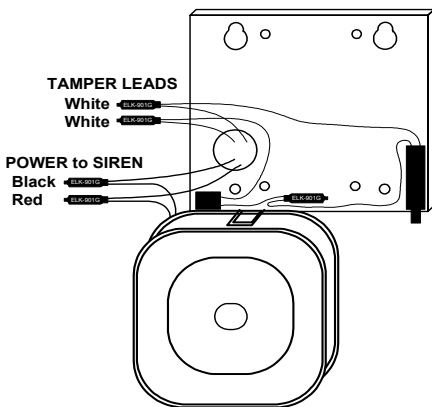

Figure 2
- Temporarily hang the Siren/speaker on the backplate by aligning the slotted insert on the top edge of the Siren with the 1/2" recessed tab on the bottom edge of the backplate. Press Siren onto tab. (See Figure 2)